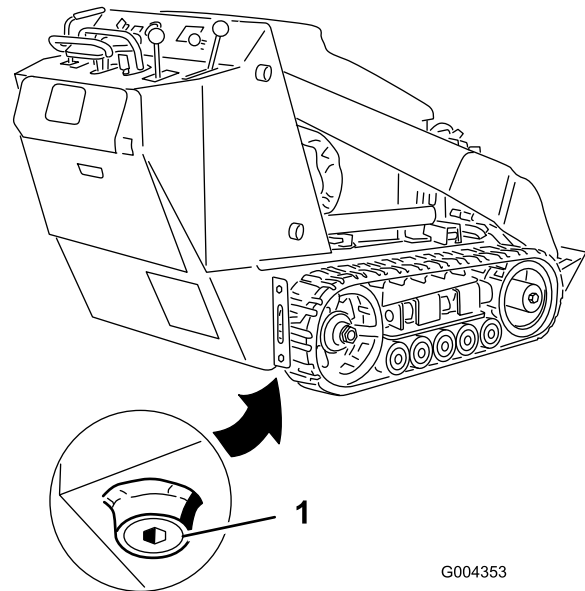

Figure 35
- Remove the drain plug (Figure 35).